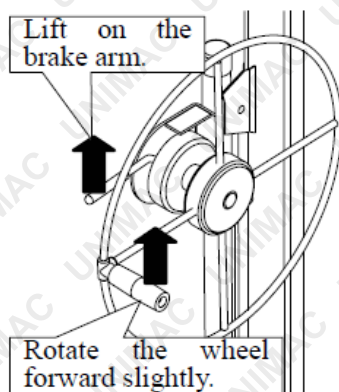

Fig. 5
- Hold the winch wheel and brake arm as shown. Rotate the winch wheel forward slightly while you lift the brake arm to release the brake, as shown in Figure 5.